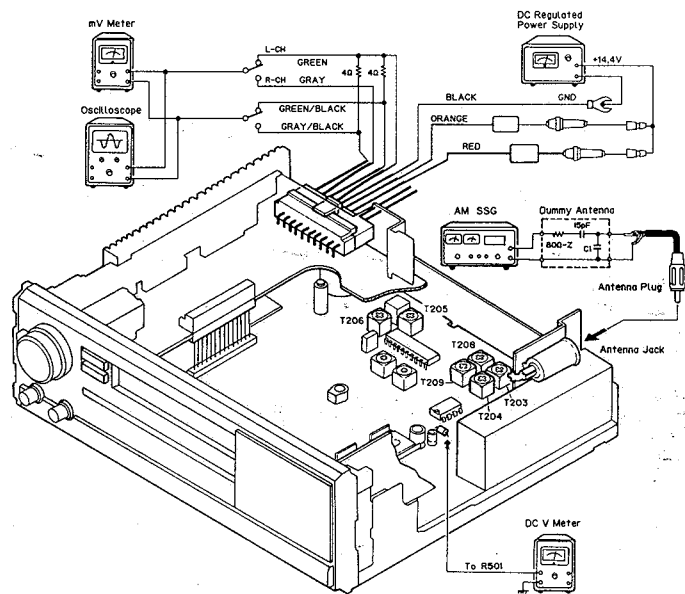

Fig. 37
9.10 AM (MW) TRACKING ADJUSTMENT
- Connection Diagram (shown in Fig. 37)